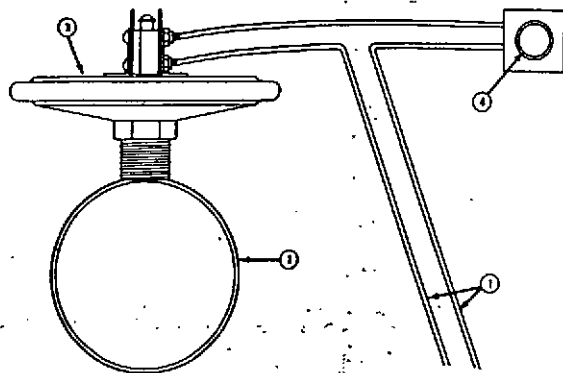

Fig. 5-16, N21905. Vacuum switch for air inlet restriction check
1. Electric source (1, Fig. 5-16).
2. Air piping with fitting for switch (2).
3. Vacuum switch (3).
4. Red indicator light (4).